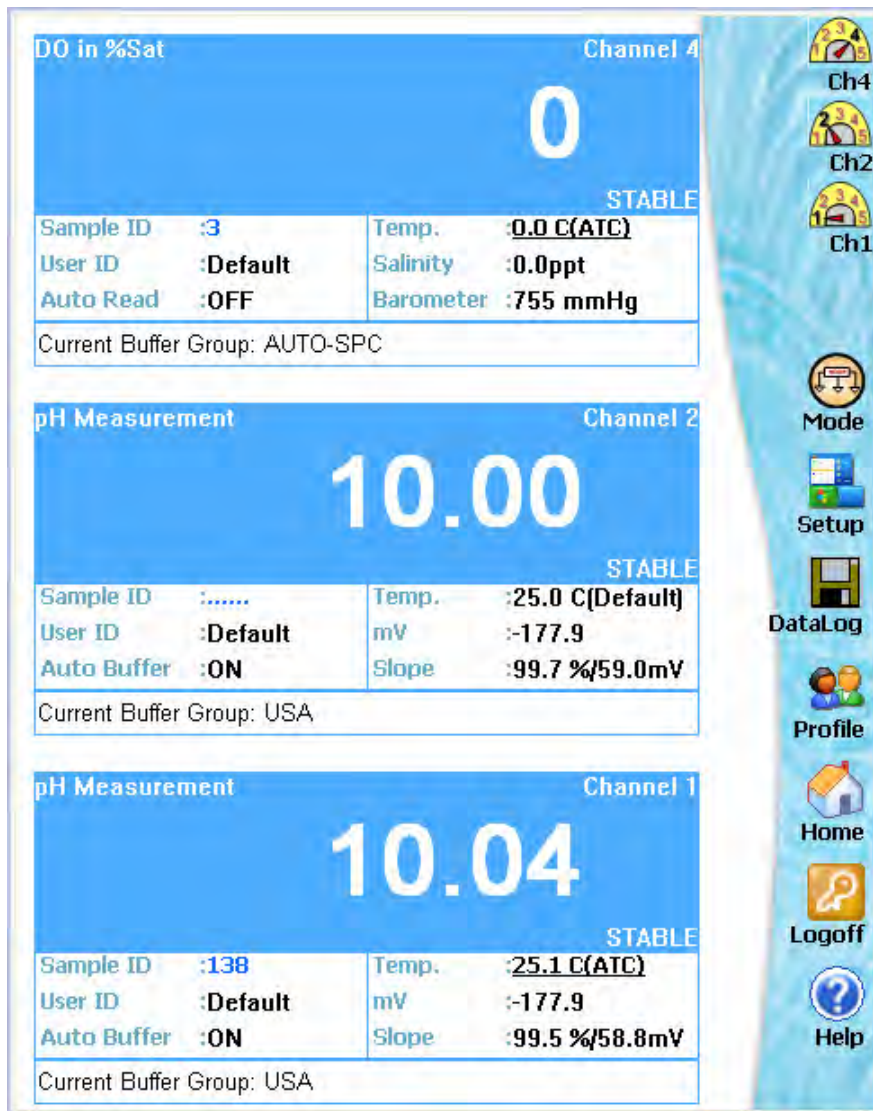

Figure 34 : Multi-channel measurement screen
5. The right-pane (workspace) displays the measuring screen of the selected parameters of each of the channels. (Figure 34).
**Note:** ATC mode is enabled when you connect a temperature probe to the meter. The measurement screen indicates the ATC mode by displaying '(ATC)' next to the Temperature ('Temp') field of the channel (Figure 34). When there is no temperature probe is connected to the meter, or the temperature probe is faulty, the measurement screen indicates '(Default)' next to the temperature field of the channel.